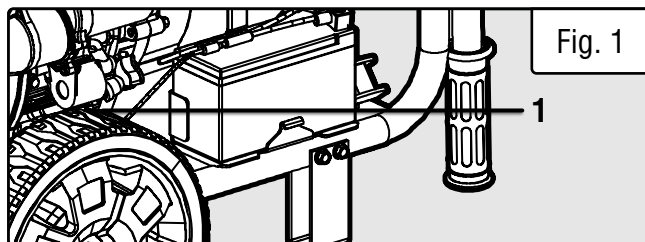

Fig. 1
2. Turn the dipstick (Fig. 1 - 1) counterclockwise until it is unscrewed from the engine.